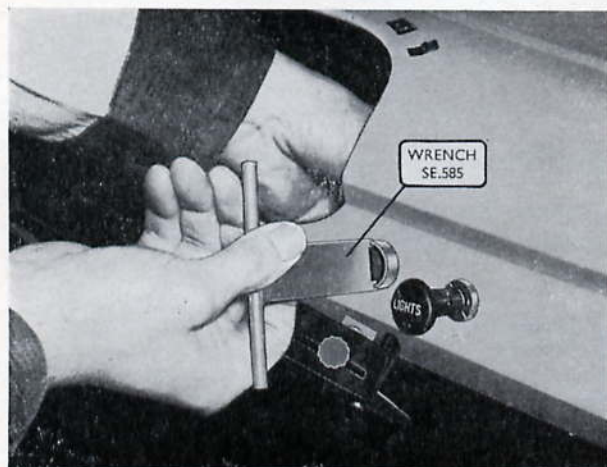

Fig. R.9. Removing the key start switch locking ring
3. Unscrew the switch locking ring (Fig. R.9), withdraw the switch and washer and detach the multi-socket connector.